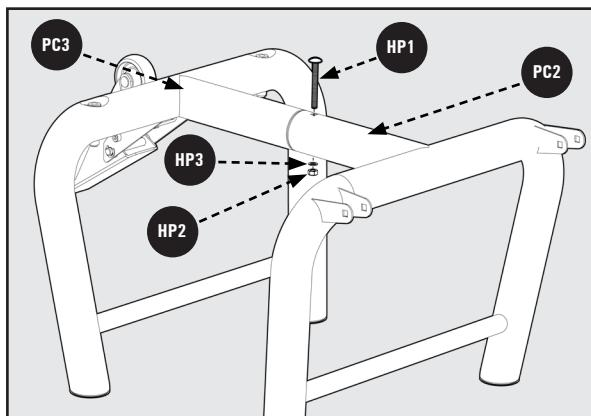

Figure 1
1. Connect the two Tube Legs together by inserting the end of the Left Leg **PC2** into the end of the Right Leg **PC3**. Using a 13mm Wrench, secure them together with a M8 x 75mm Carriage Bolt **HP1**, M8 Flat Washer **HP3**, M8 Nylock Nut **HP2** and tighten. See Figure 1.